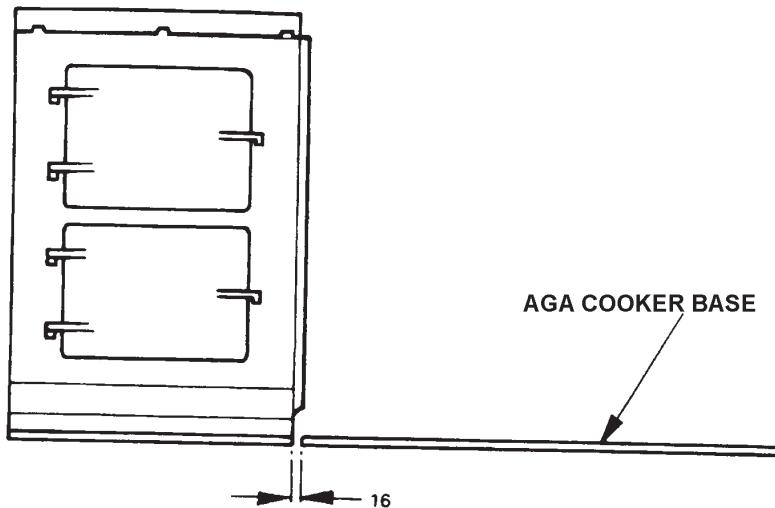

Fig. 8
- Place the hotcupboard unit into position alongside the main Aga baseplate, carefully feeding the gas supply pipe through the appropriate holes, and ensuring that a 16mm gap is left between the two bases. (See Fig. 8).